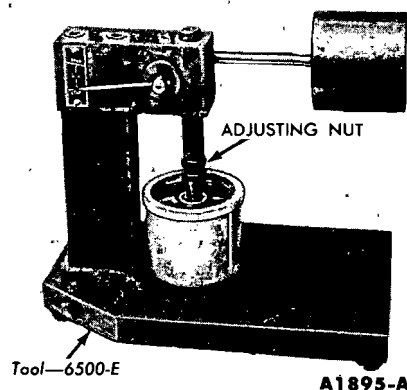

FIG. 6—Adjusting the Ram Length
4. Adjust the length of the ram so that the pointer is 1/16-inch below the starting mark when the ram contacts the valve lifter plunger (Fig. 6) to facilitate timing as the pointer passes the Start Timing Mark.